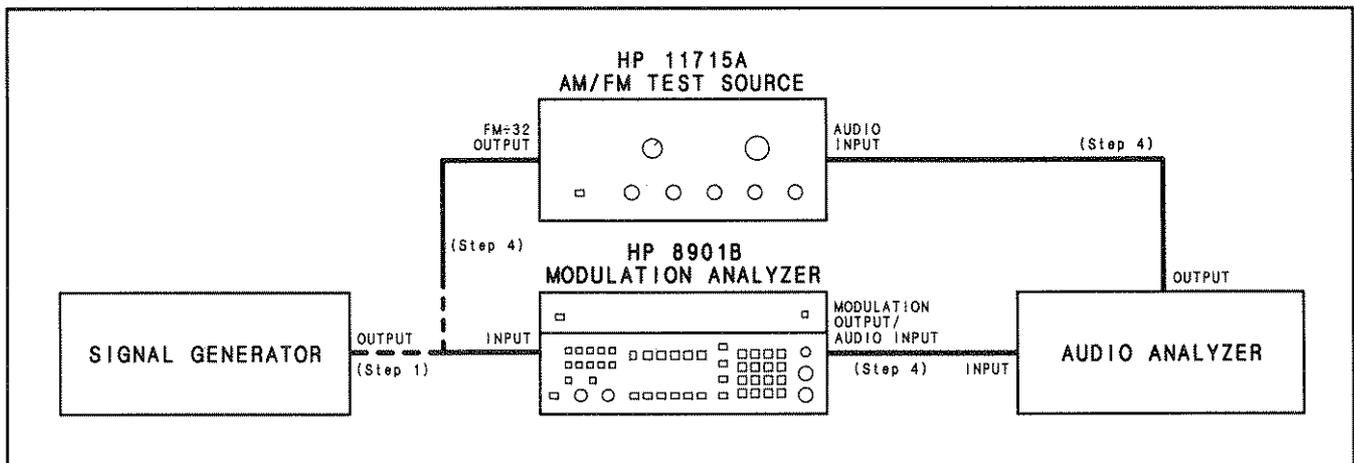

Figure 5-7. FM Distortion and Incidental AM — 455 kHz IF Adjustment Test Setup
1. Set the signal generator to 2.45 MHz at 0 dBm with 10 kHz peak FM deviation at a 1 kHz rate. Connect its RF output to the Modulation Analyzer's INPUT as shown in Figure 5-7.
4. Disconnect the signal generator and connect the remaining equipment as shown in Figure 5-7.